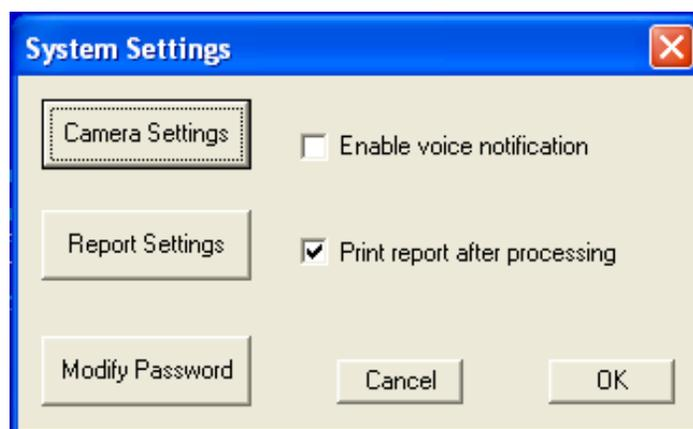

Figure 2-4 : The System Settings dialogue box.
1. Open the **Designer Operations** dialogue box, shown below in Figure 2-4, by selecting the **Settings → Designer Operations** menu item. Enter the designer password when required (or leave it blank, if that is what the password was changed to), and click **OK** or press **Enter**.
7. Open the **System Settings** dialogue box, shown below in Figure 2-4, by selecting the **Settings → System Settings** menu item. Enter the operator password when required, and click **OK**.